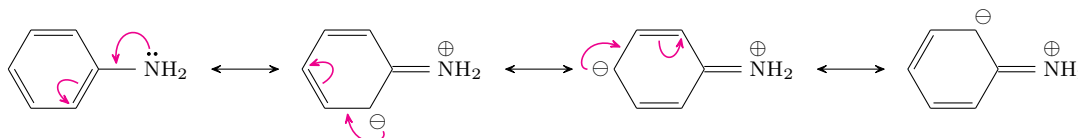

Figure 3.12: Basicity of aniline.
- Just like in a phenol, we can push the heteroatom electrons into the benzene ring to get three other resonance forms (Figure 3.12).